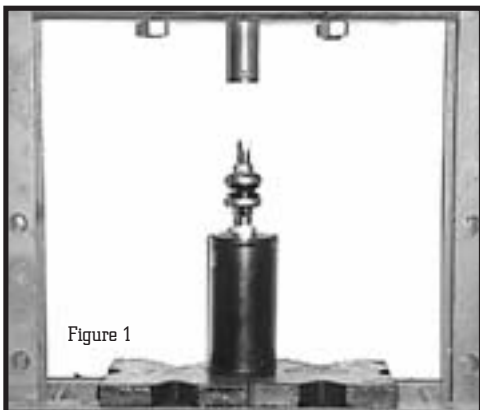
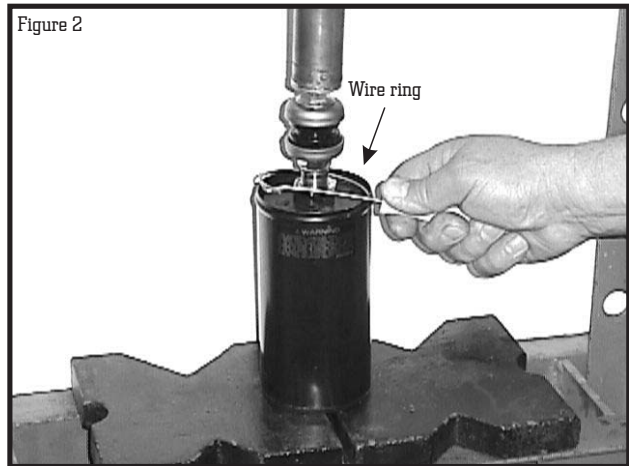

Figure 1
Figure 2
3. To disassemble your shock with a hydraulic press, make a fixture to support the spring cover as shown in figure 1. You must leave about 2" of space between
the end of the ram and the top of the mount (see figure 1). Press straight down on the mount with the hydraulic ram, it only needs to be compressed about ¼" to expose the wire ring. Remove the wire ring with a pick and slowly release the hydraulic pressure (see figure 2). Separate the damper from the spring cover and spring. You can also disassemble the shock using Progressive Suspension tool #32-5507. Follow the instructions enclosed with the tool.